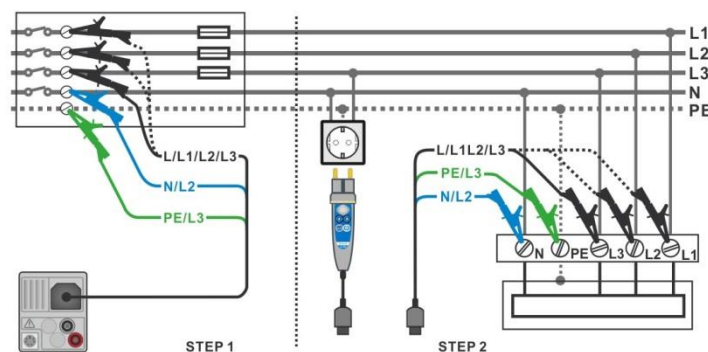

Figure 7.45: Voltage drop measurement – connection of Plug commander and 3-wire test lead
- › Connect test leads to the origin of electrical installation, see **Figure 7.45**.
- › Connect test leads or Plug commander to the tested points, see **Figure 7.45**.